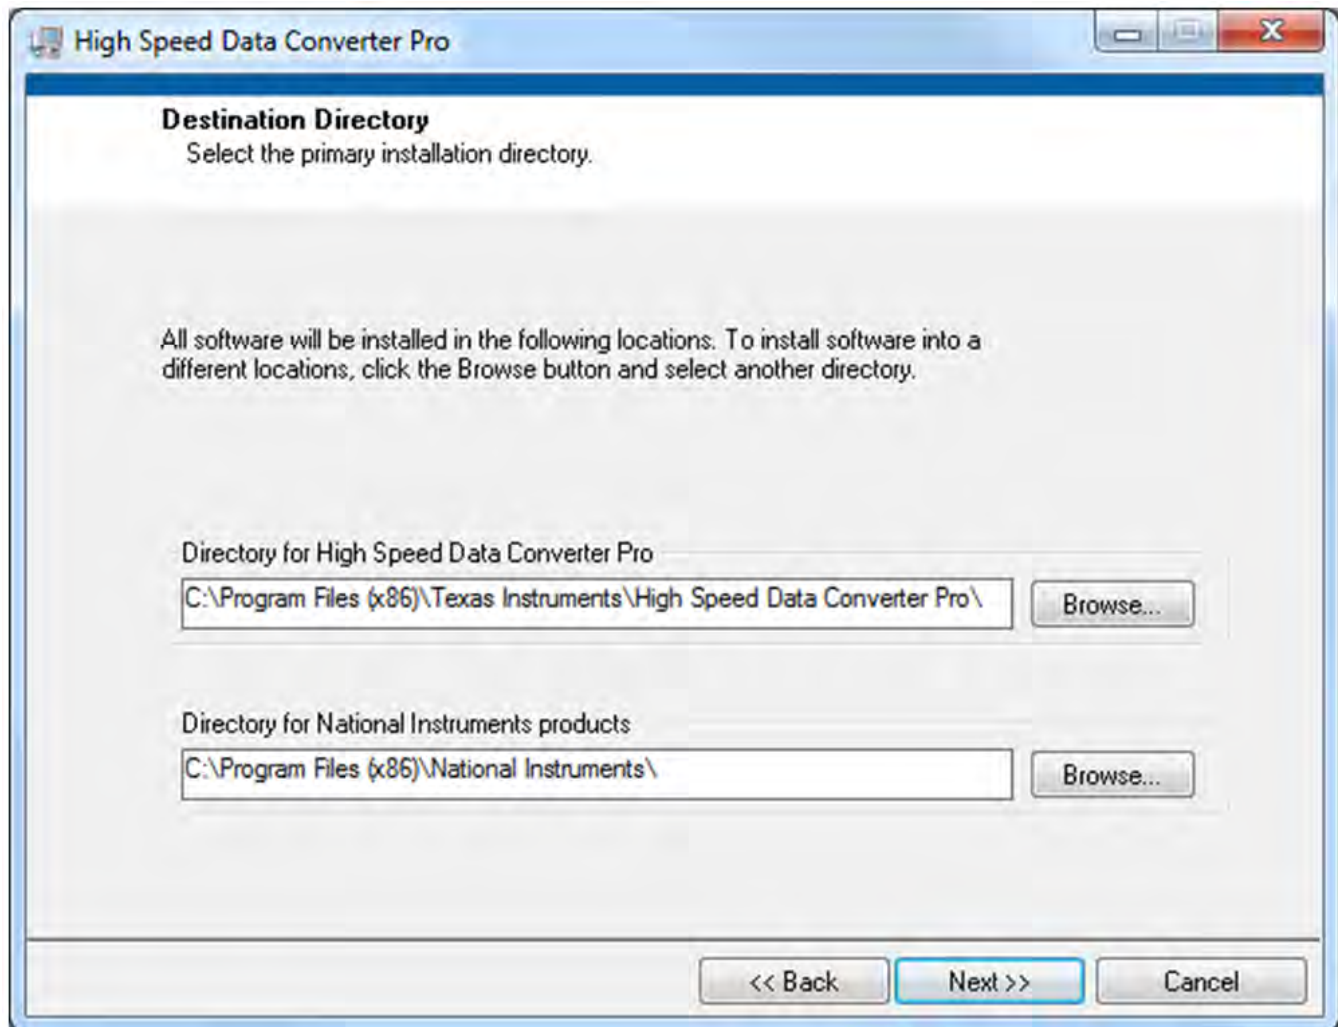

Figure 32. HSDCPro Install (Install Directory)
- Leave the destination directories as the default location, for the TSW1400GUI installation and press the NEXT button as shown in Figure 32.